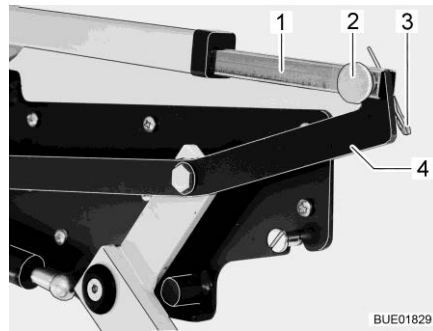

Fig. 124 Drive for the pull-down bed
- Release the connection between the push rod (Fig. 124,1) and lever (Fig. 124,4). To do this, pull out the splint (Fig. 124,3) and pin (Fig. 124,2).